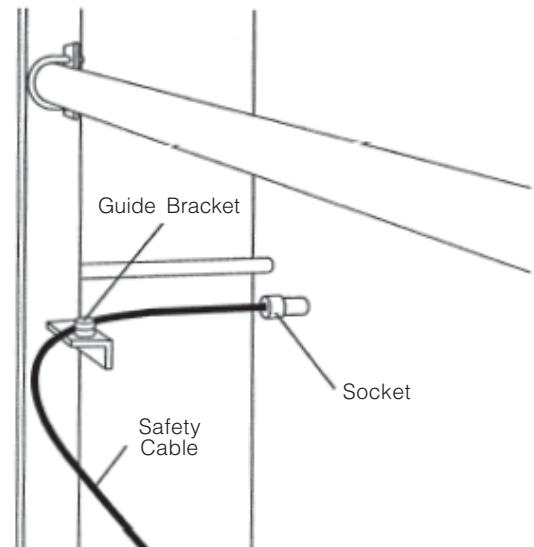

Figure 3-29. Feed Service-Side Safety Cable Through Socket
12. Feed non-bolted end of the service-side cable through socket into the main control panel (see Figure 3-29). Ensure cable is positioned around guide bracket.